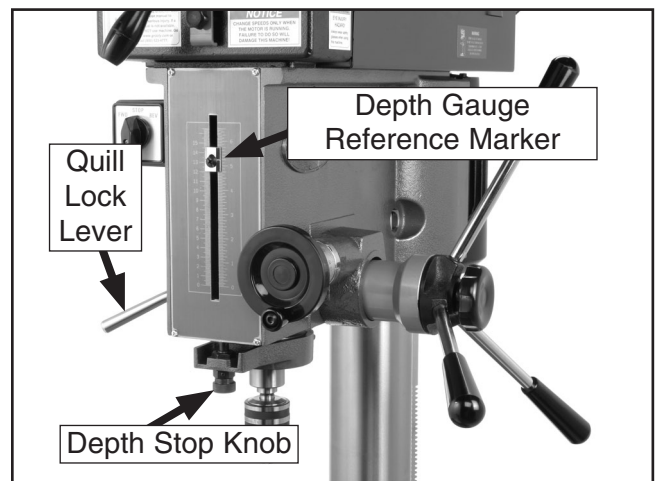

Figure 18. Depth gauge.
1. To lock the quill in place, rotate the quill lock lever (see **Figure 18** on **Page 21**) clockwise and hand tighten.
1. Rotate the depth stop knob until the depth gauge reference marker indicates the desired depth (see **Figure 18** on **Page**).